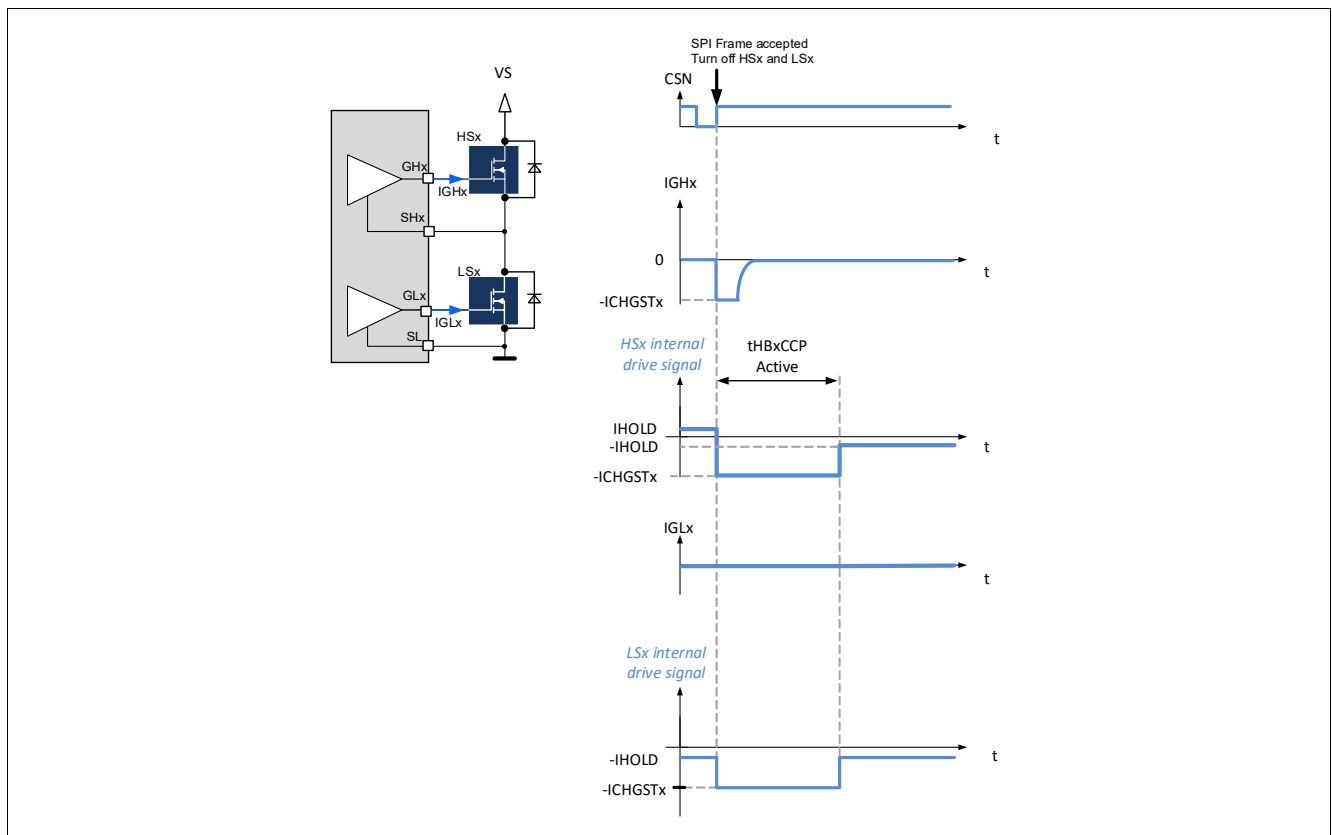

Figure 38 Turn-off of the high-side and low-side MOSFETs of a half-bridge
- The gate of HSx and LSx are discharged with the current -ICHGSTx for the duration $t_{HBxCCP\ ACTIVE}$ (Figure 38).